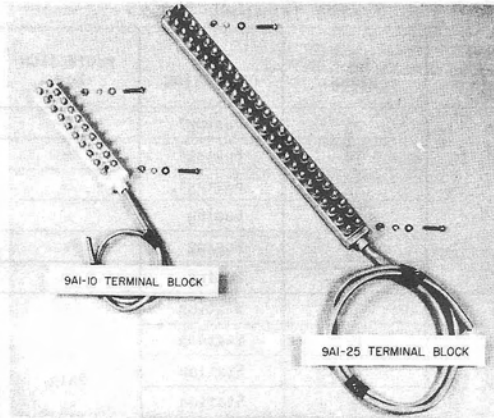

Fig. 5—9-Type Terminal Blocks (Unprotected)◄
2.01 The 9-type terminal blocks for use with buried service wire are listed in Table A. Table A references Fig. 5 through 7.